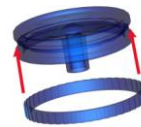

Fig. 2
1. Put the wheel rings (12) over the middle wheels (5) and install them to the chassis (1). Use the screws (15) to attach the small wheels (6) to the front and rear of the chassis (1). (Fig. 2,3)